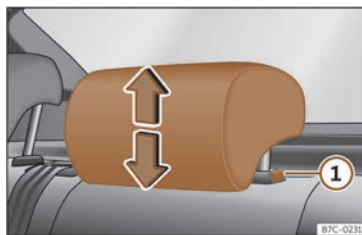

Fig. 89 Rear headrest: adjusting the headrest.
- Grab the sides of the headrests with both hands and push upwards to the desired position. To lower it, repeat the same action, pressing the button on the side ① >>> **Fig. 89**.